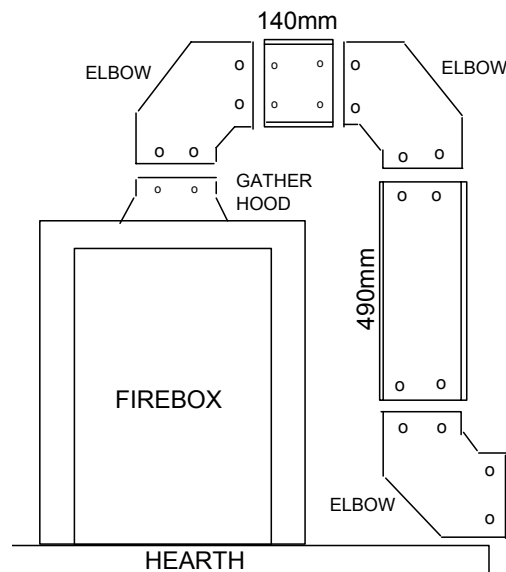

Figure 45
1. Assemble the 3 elbows and the two short ducts (140mm and 490mm long) as shown in **Figure 45** using screws provided. Seal all the made joints using the aluminium tape supplied. Wrap the tape once round each joint.